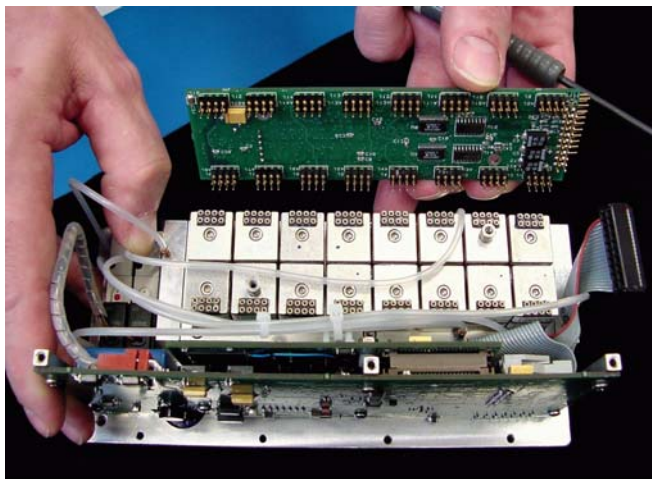

Figure 7
- (1) Remove the new PC-327 board from its shipping container, paying particular attention to prevention of electrostatic discharge damage.
- (2) Place the new board on top of the DH-200s with the connector pins on the same end as the wiring harness. Route the one tube beneath the board. (See **Figure 7**.) Line up the gold pins, and gently and slowly press to connect. Pay particular attention to the C1 and C4 tubes and ensure they are not crimped or crushed between the PCB and the DH200s. (See **Figures 7 and 7a**.)